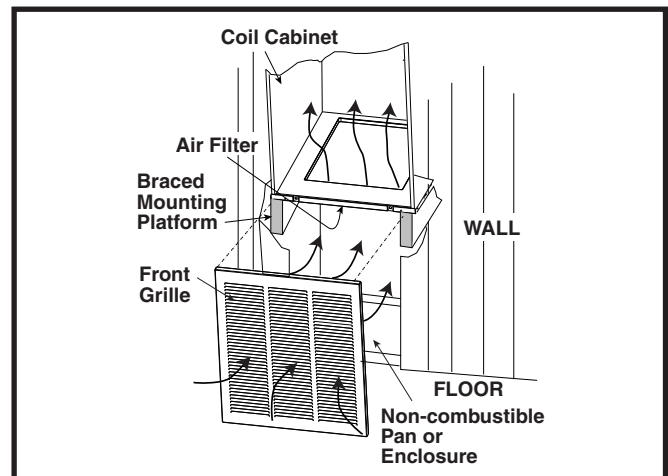

Figure 15. Over-the-Floor Return Air System
- If floor underneath furnace is made of combustible material, locate a pan fabricated of non-combustible material with 1" upturned flanges under furnace return air opening (see Figure 15).
- Install return air grille in closet preferably at same level as upflow stand or below mounting platform. See Figure 15.